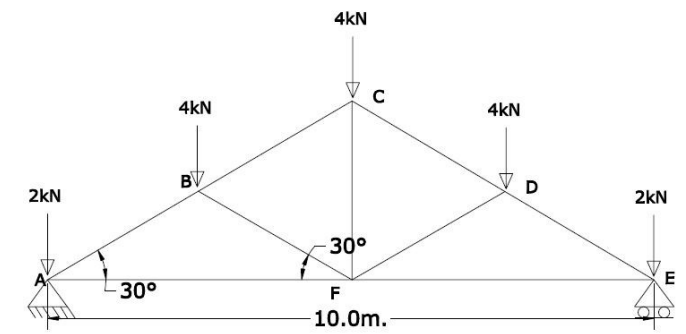

Fig. 5
- 6. (a) Determine the forces in the various members of the truss shown in Fig.5.